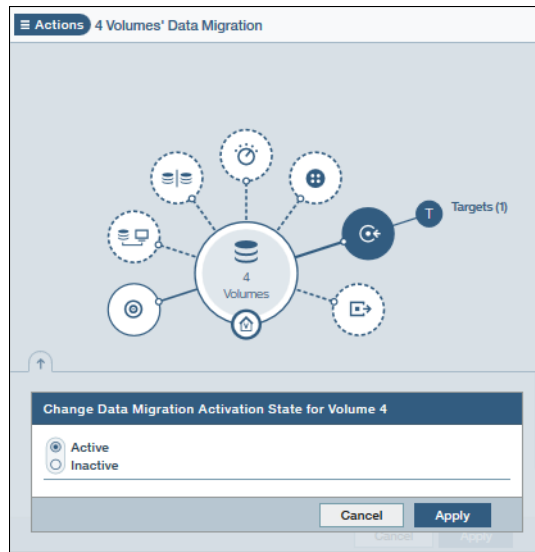

Figure 8-45 Activating migration for the migration volumes
3. Select **Active** and click **Apply**, as shown in Figure 8-45.